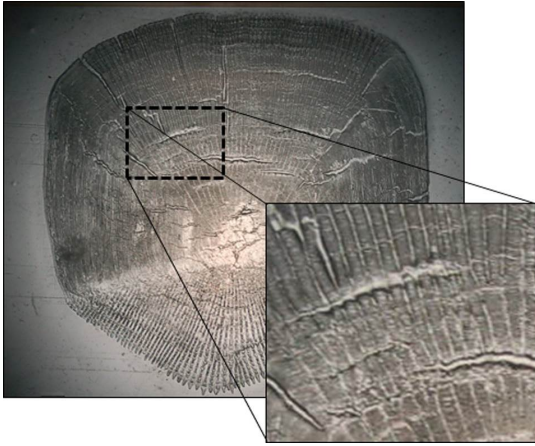

Figure 11: Striped bass scale impression damaged from too much heat during pressing.
3. The scale is deteriorated by excessive heat and/or pressure(Figure 11);